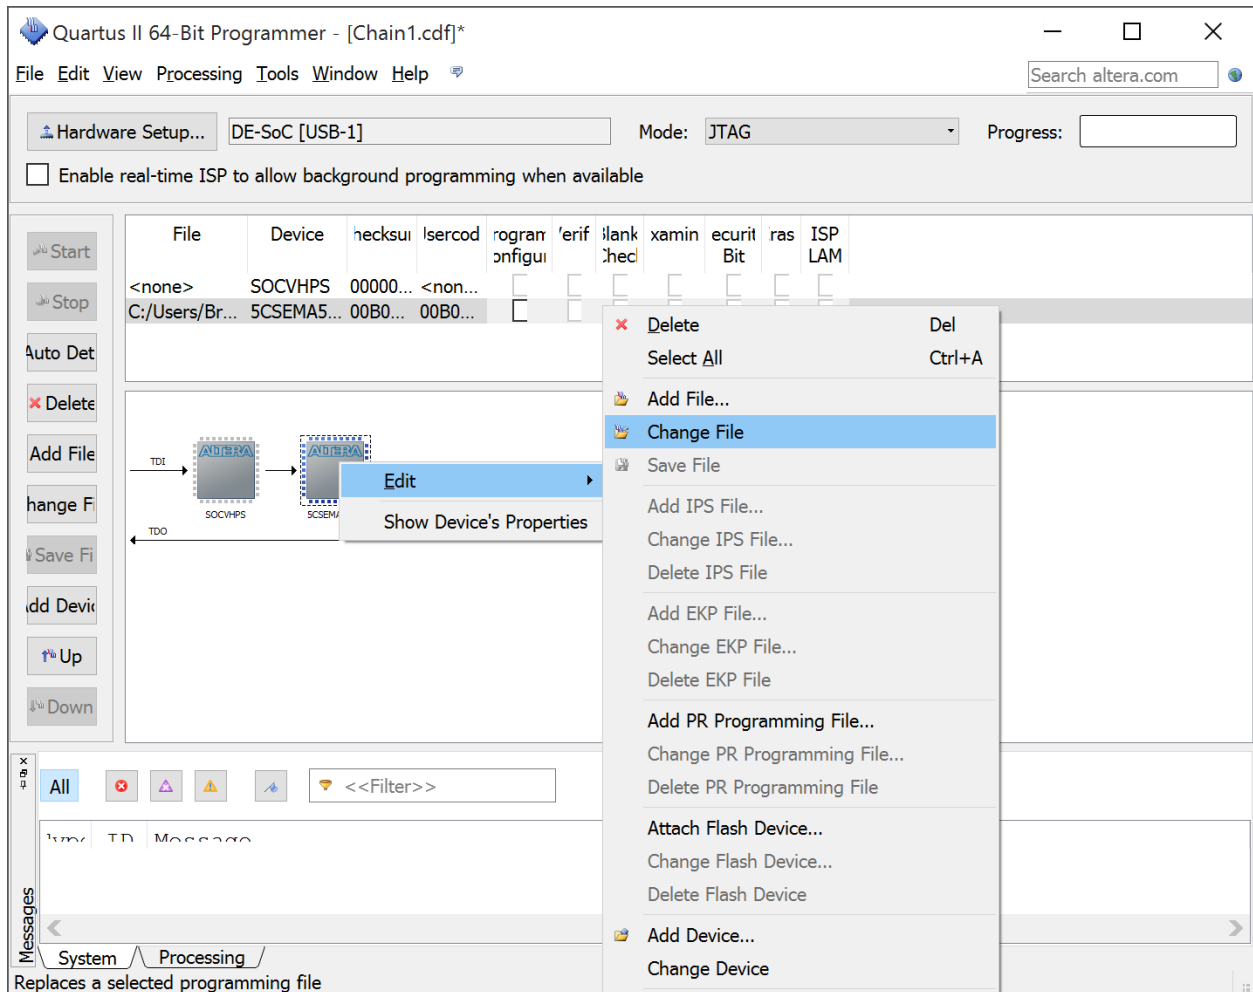

Figure 7: Adding a file to program the FPGA.
- Next, you need to add your programming file to the 5CSEMA5 device. To do this, right click the 5CSEMA5 device and select “Edit->Change File” as shown in Figure 7.